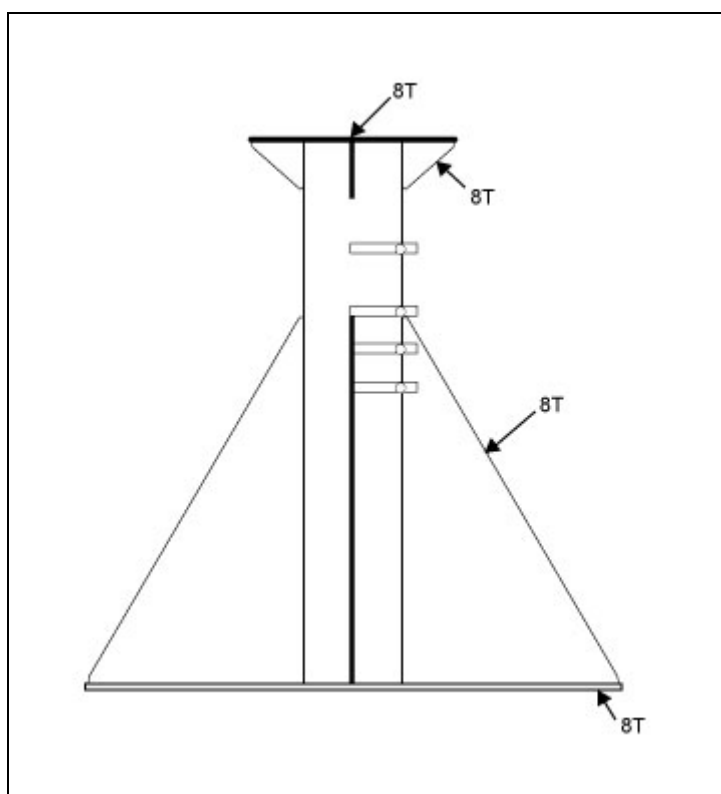

Figure 3-5 Diagram of a typical Antenna Support Post (Unit mm)
5. Refer to Fig 3-5 below. The thickness and size of the support plate can be changed according to the height of the support post